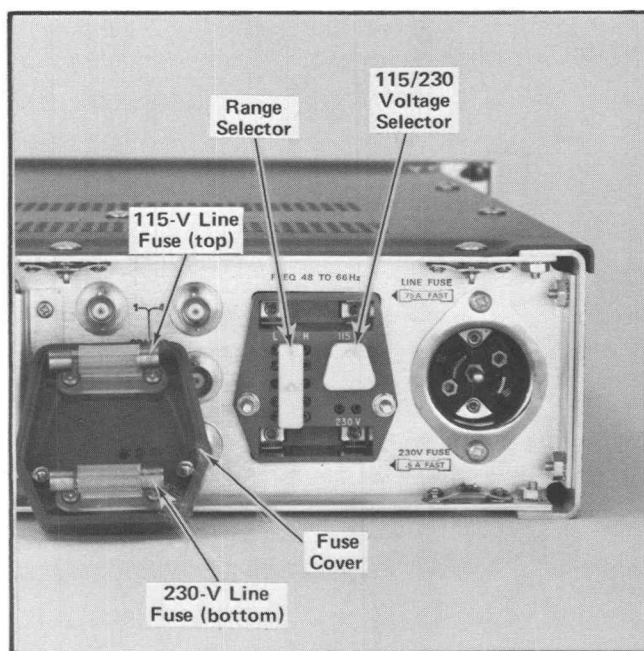

Fig. 2-1. Location of Range and Voltage Selector plugs with fuse cover removed. The plugs as shown are set for 115-V medium range operation.
3. To convert to a different line voltage (115 V to 230 V), pull out the 115/230 Voltage Selector plug (see Fig. 2-1). Rotate the plug 180° and insert it into the opposite set of holes. The 115/230 Voltage Selector plug is located in the upper position for 115-V operation and in the lower position for 230-V operation.
4. To change the line-voltage operating range (LO, M or HI), pull out the Range Selector plug (see Fig. 2-1) and insert it in the desired hole locations. Select a range with a center voltage (see column 3 in Table 2-1) closely corresponding to the line voltage that will be applied in regular instrument operation.